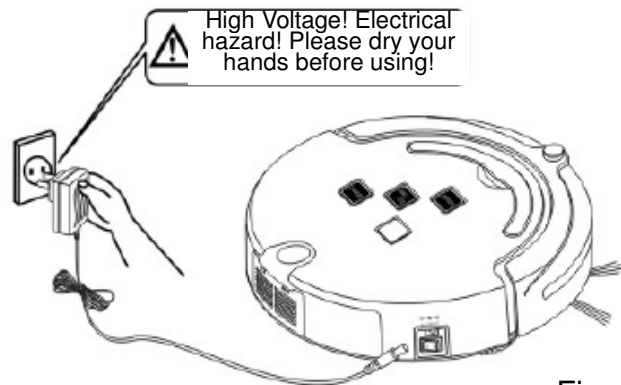

Figure 1
2. Connect the output terminal of the adaptor with DC socket of the main body while using the adapter for charging. (Refer to Figure 1)